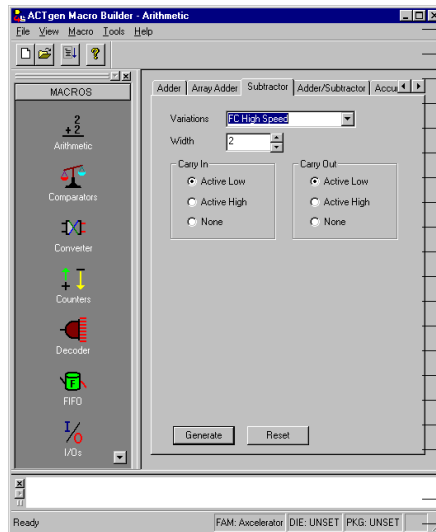

Figure 1-2. Macro Types - Arithmetic Macro
5. **Specify the macro type.** Each type of macro may have several specific types available. Click the tab of the macro type you wish to generate (Figure 1-2). Click the arrows to view more macro types.